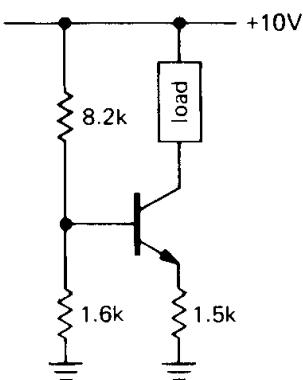

Figure 2.79
(2) Consider the current source in Figure 2.79. (a) What is  $I_{load}$ ? What is the output compliance? Assume  $V_{BE}$  is 0.6 volt. (b) If  $h_{FE}$  varies from 50 to 100 for collector voltages within the output compliance range, how much will the output current vary? (There are two effects here.) (c) If  $V_{BE}$  varies according to  $\Delta V_{BE} = -0.0001 \Delta V_{CE}$  (Early effect), how much will the load current vary over the compliance range? (d) What is the temperature coefficient of output current assuming that  $h_{FE}$  does not vary with temperature? What is the temperature coefficient of output current assuming that  $h_{FE}$  increases from its nominal value of 100 by 0.4%/°C?
(3) Design a common-emitter npn amplifier with voltage gain of 15,  $V_{CC}$  of +15 volts, and  $I_C$  of 0.5mA. Bias the collector at  $0.5V_{CC}$ , and put the low-frequency 3dB point at 100Hz.
(4) Bootstrap the circuit in the preceding problem in order to raise the input impedance. Choose the rolloff of the bootstrap appropriately.
(5) Design a dc-coupled differential amplifier with voltage gain of 50 (to a single-ended output) for input signals near ground, supply voltages of  $\pm 15$  volts, and quiescent currents of 0.1mA in each transistor. Use a current source in the emitter and an emitter follower output stage.
(6) In this problem you will ultimately design an amplifier whose gain is controlled by an externally applied voltage (in Chapter 3 you will see how to do the same thing with FETs). (a) Begin by designing a long-tailed pair differential amplifier with emitter current source and no emitter resistors (undegenerated). Use  $\pm 15$  volt supplies. Set  $I_C$  (each transistor) at 1mA, and use  $R_C = 1.0\text{k}\Omega$ . Calculate the voltage gain from a single-ended input (other input grounded) to a single-ended output. (b) Now modify the circuit so that an externally applied voltage controls the emitter current source. Give an approximate